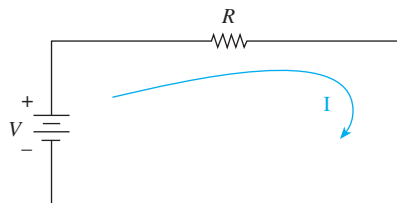

Figure F-1 Series circuit used to illustrate Ohm's law.
Definitions for Figure F-1
- Determine the current (I) in the circuit of Figure F-1 if $V = 10\text{ V}$ and $R = 2\ \Omega$.
- Calculate the voltage required in Figure F-1 to make 2 A flow if $R = 10\ \Omega$.
- If $V = 12\text{ V}$ in Figure F-1, what resistance is required to limit the current to 2 A ?
Apply the values listed below to the circuit of Figure F-1 to determine the unknown quantity.